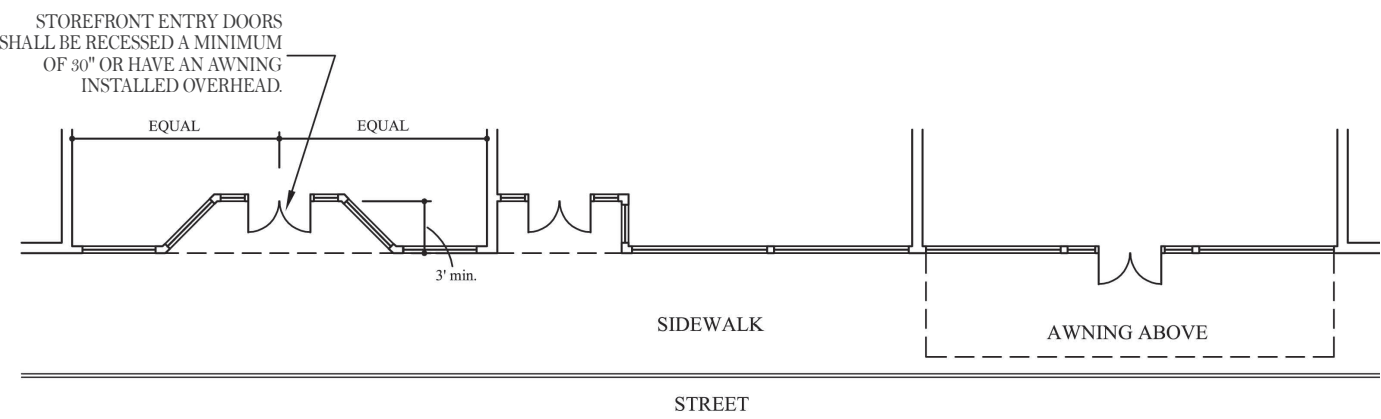

Figure 2
- » Storefront entry doors shall be recessed a minimum of 30” or have an awning installed overhead and located near the center of the storefront, except at corners. See Figure 2.